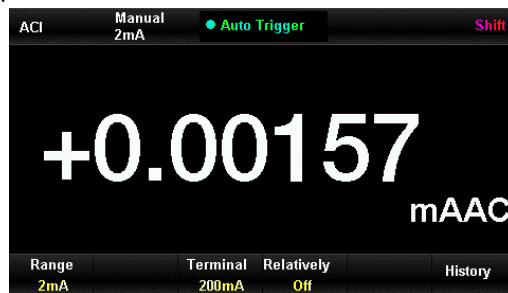

Figure 2-11 Interface of AC current measurement
- 1) Press button and press button to enter interface of AC current measurement as Figure 2-11.